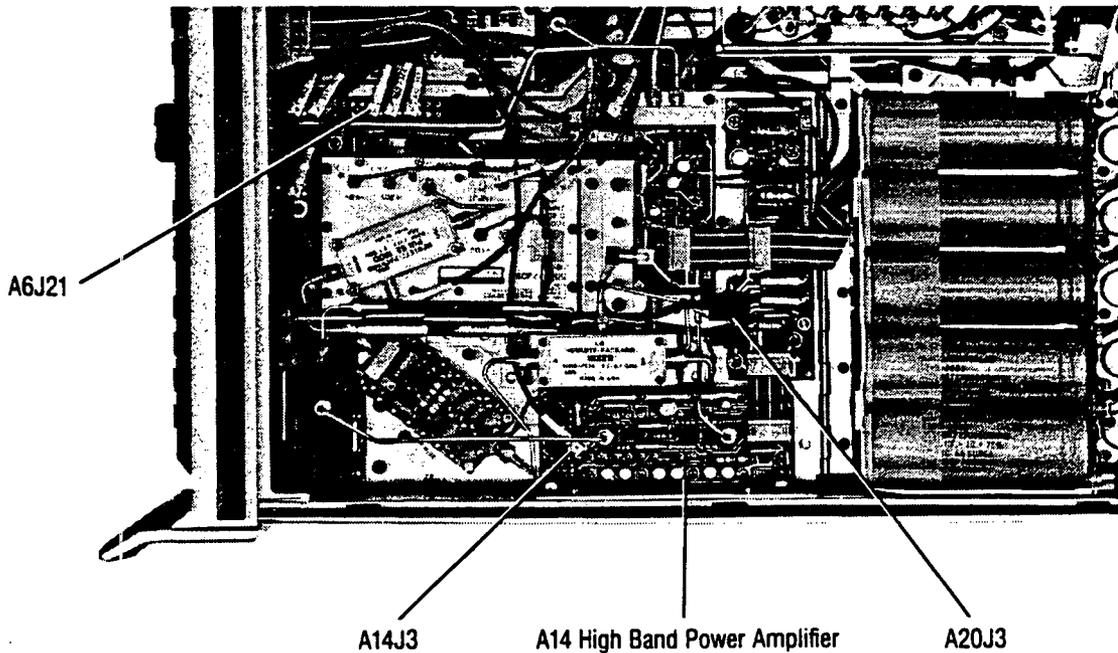

Figure 4. Location of A14 High Band Power Amplifier and Associated Components After Installation
23. Refer to Figure 4. Locate and remove the A14 high band power amplifier. Set it aside.
25. Refer to Figure 4. Install the coaxial cable, J21, provided in this package between A14J3 and A6J21.